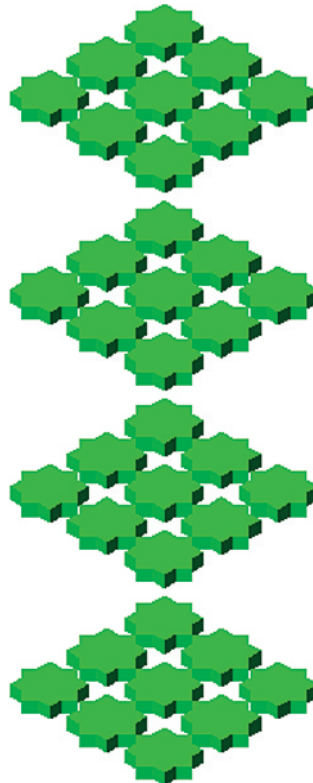

Fig. 15.12 First example – a **Rectangular Array**
First example – a Rectangular Array (Fig. 15.12)
4. Shade using **Visual Styles/Conceptual** (Fig. 15.12).